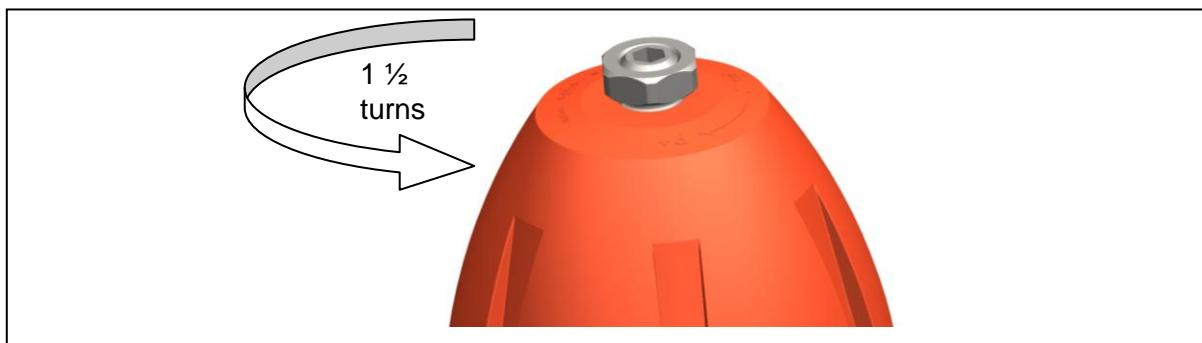

Fig. 3
- Loosen the locking nut, see Fig. 3